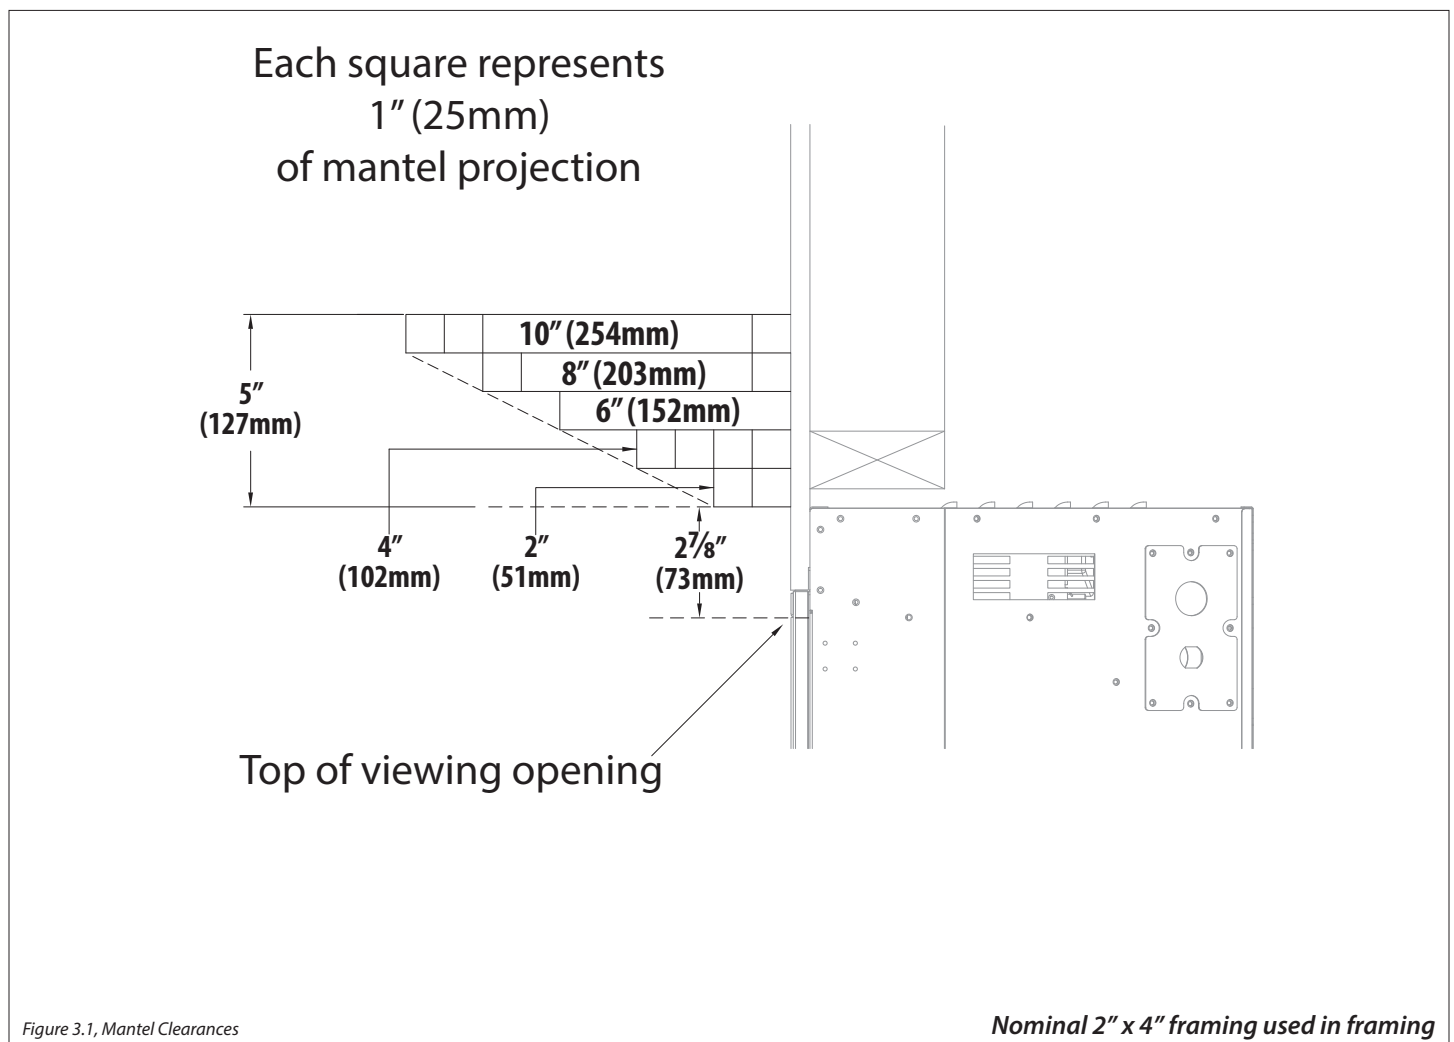

Figure 3.1, Mantel Clearances
- **Combustible Mantel Projections:** As referenced in Figure 3.1, the 2" (51mm) mantel can start at 2-7/8" (73mm) above the top of the viewing opening. Mantel projections can increase 2" (51mm) of depth for every 1" (25mm) of height starting at the 2" (51mm) mantel.